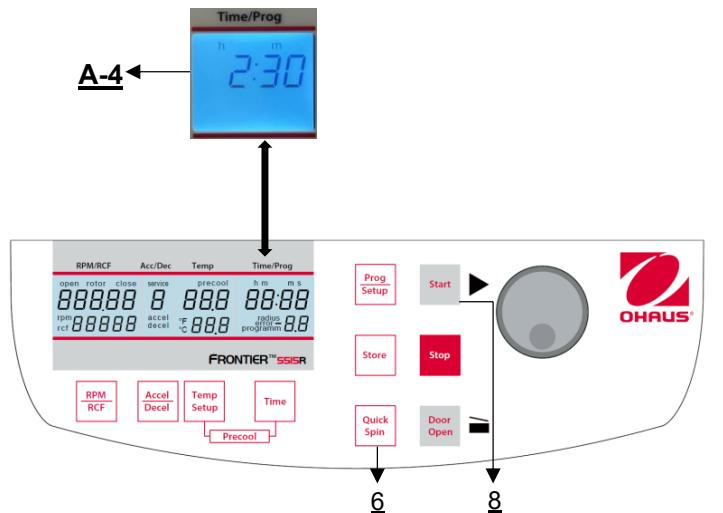

Figure 26
You can start the centrifuge either with the "Start" key (8) or the "Quick Spin" key (6) (see Figure 26). By the "Start" key (8) you can start stored runs or runs with manually pre-selected parameters. When the respective pre-selected running time has ended the centrifuge will stop automatically. By the "Quick Spin" key (6) you can start runs, which will last just a few seconds.